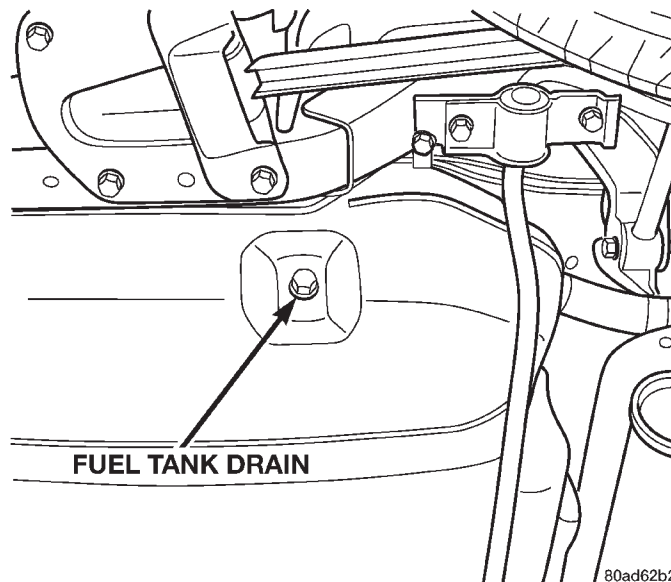

Fig. 24 Fuel Tank Drain
(5) Raise vehicle and support.
(6) Drain fuel tank, refer to Draining Fuel Tank in Group 14, Fuel Delivery (Fig. 24).